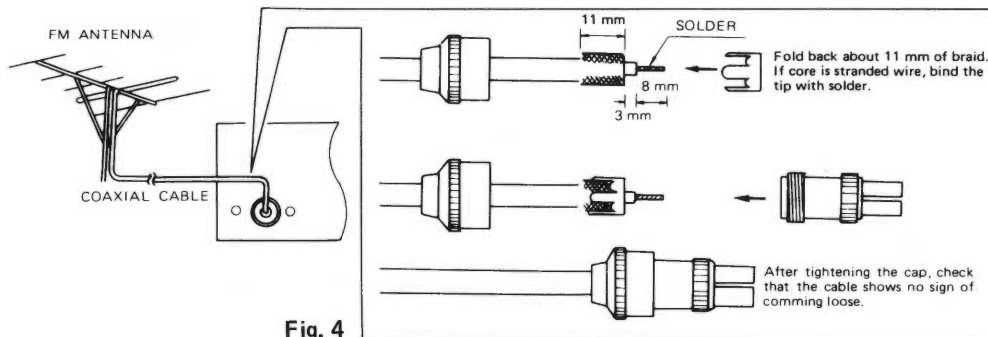

Fig. 4
- **FM OUTDOOR ANTENNA CONNECTION (Fig. 4)**